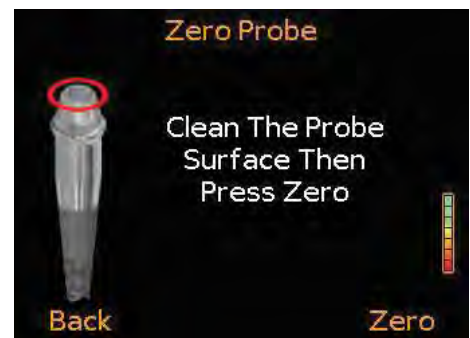

Figure 24
- 2 Hold the (clean) probe in free air and press 'Zero' (Figure 24).